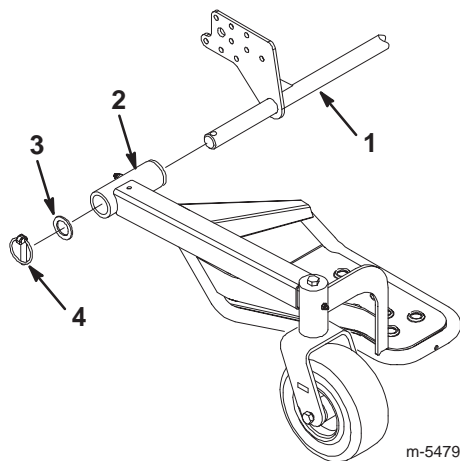

Figure 7
- Slide the mounting tube on each sulky assembly over the ends of the axle with the foot rests towards the inside (Fig. 7).
- Secure the sulky assemblies using a washer (1-3/4 in.) and lynch pin on each side (Fig. 7).